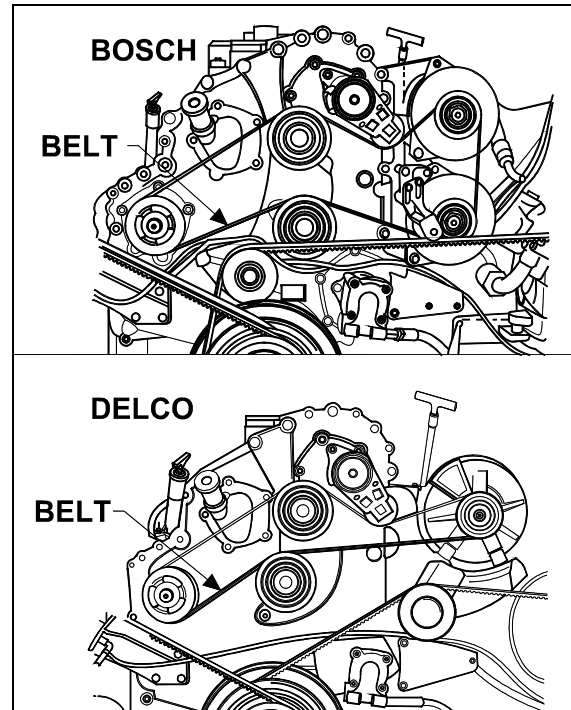

FIGURE 40: ALTERNATOR DRIVE BELT
1. Insert a 3/4" socket drive into one of the tensioning arm opening (Fig. 40).